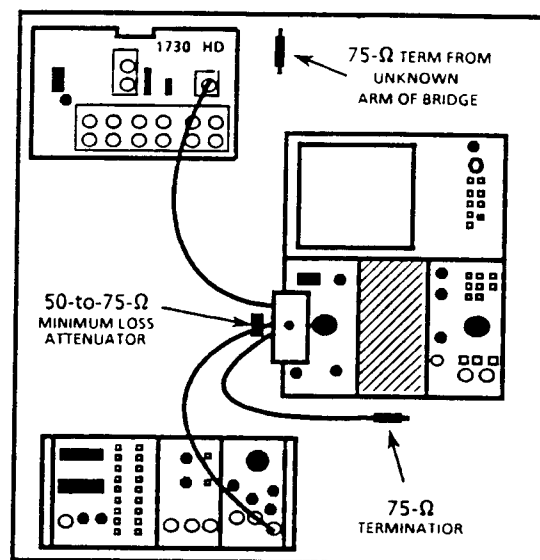

Fig. 5-9. Measuring return loss of 1730 HD PIX MON OUT.
- Remove the terminator from the Unknown arm and connect the Unknown arm to the PIX MON OUT on the 1730 HD. See Fig. 5-9.